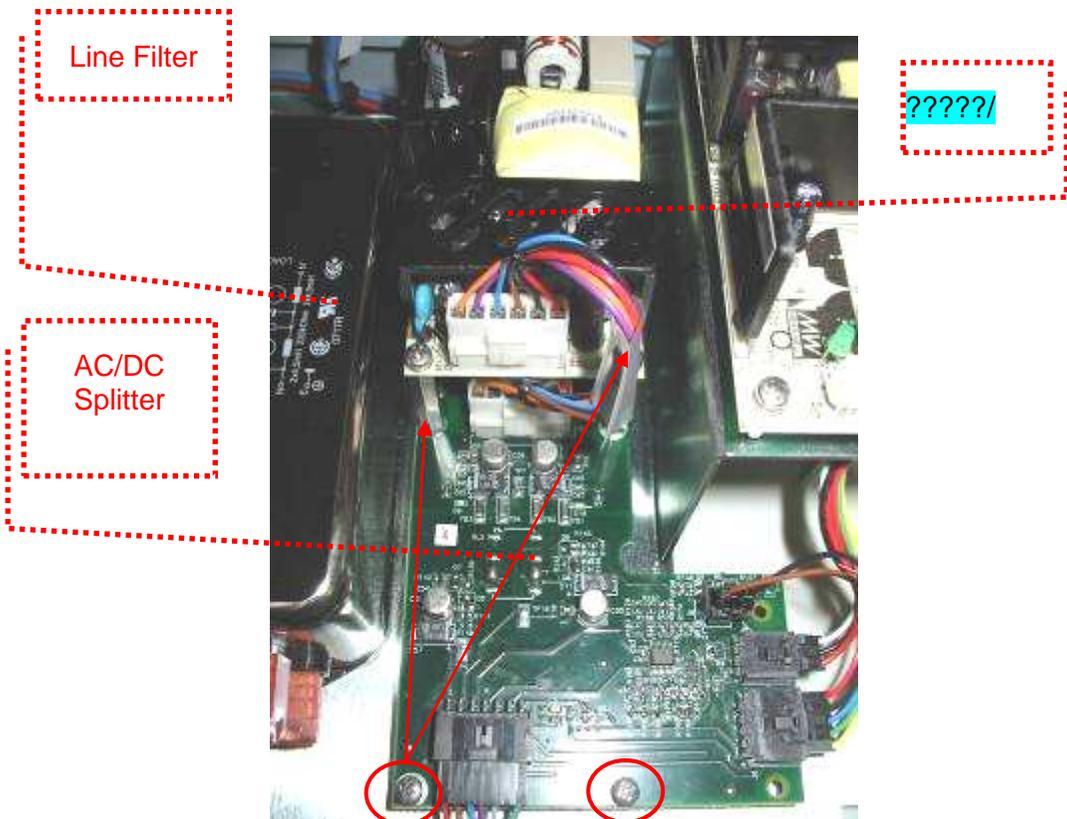

Figure 18: Splitter
6. Remove allen screws securing the Splitter to the chassis (Figure 18).